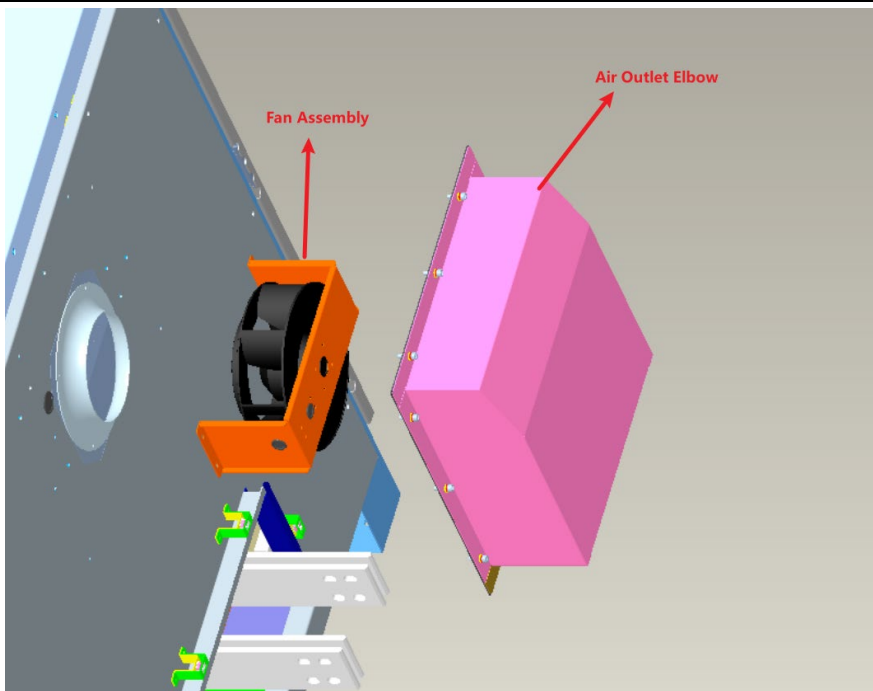

Figure 4-9 Schematic diagram for replacing the fan components of the DC&AC LV Panel
3. Replacement of DC&AC LV Panel fan components: directly remove the fan outlet elbow, remove the internally installed fan components, and then remove the fan plug-in terminals to remove the fan, as shown in Figure 4-9 below;